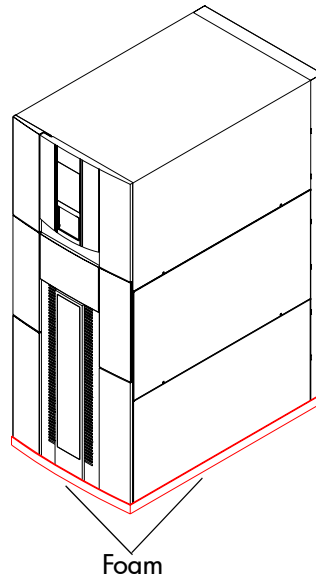

Figure 45: Adding the shipping foam to the library perimeter
11. Close the library doors and add shipping foam to the bottom of the library perimeter (see Figure 45).